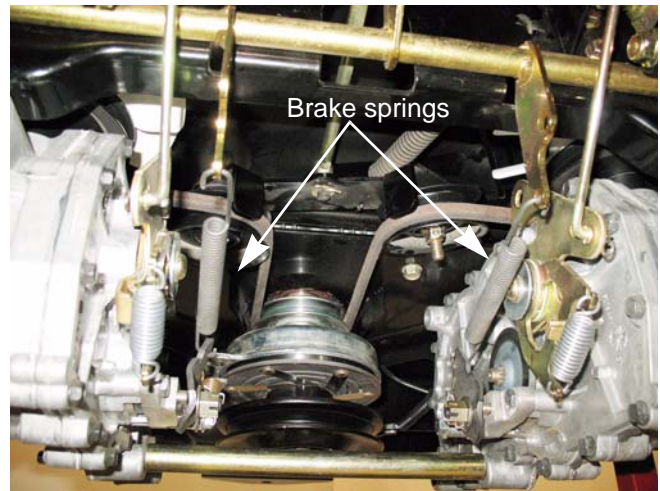

Figure 3.11
4. Disconnect the brake springs. See Figure 3.11.